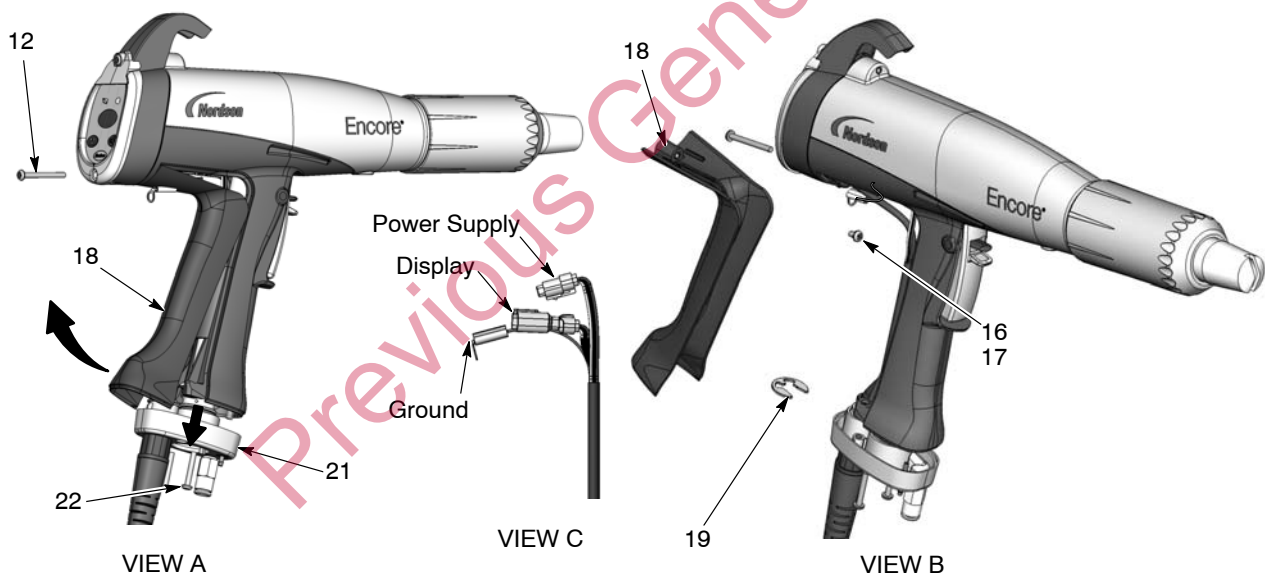

Figure 6-7 Cable Replacement
2. See Figure 6-7, View A. Remove the two M3 x 20 screws (22) securing the handle base (21) to the handle.
3. Remove the lower M3 x 35 screw (12) from the display module.
4. Pull the base away from the handle enough to free the bottom edge of the ground pad (18) from the base.
6. See Figure 6-7, View B. Remove the M3 x 6 screw, lock washer (16, 17), and ground terminal from the ground pad.
7. Remove the retaining ring (19) from the cable.
8. See Figure 6-7, View C. Pull the cable connectors out of the handle. Insert a small flat-bladed screw driver in the slots of the power supply and display connectors to release the catch and disconnect them.
1. See Figure 6-7. Feed a new cable through the handle base, then install the retaining ring (19) on the cable to hold it in place.